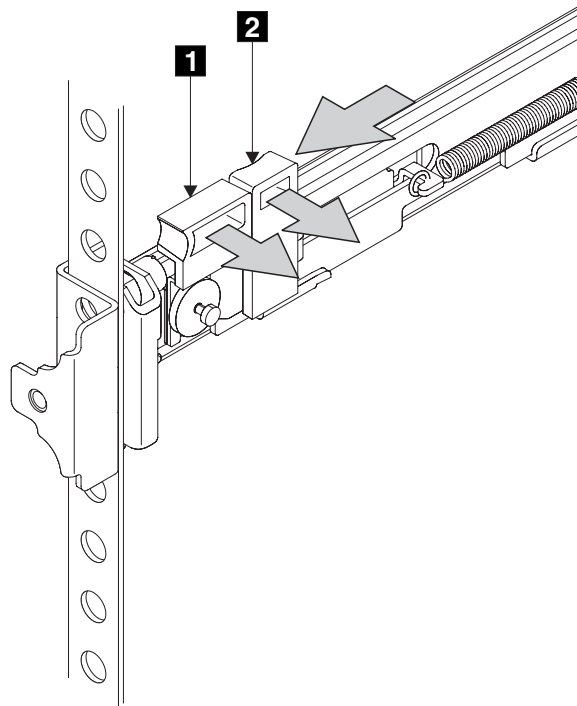

Figure 78. Closing the latch-lock carrier assembly
8. Push the latch lock **2** (Figure 78) away from the rail to release the carrier. The latch-lock carrier slides toward the front of the rack and the locating pins project through the holes that are in the front flange and in the front rail bracket.